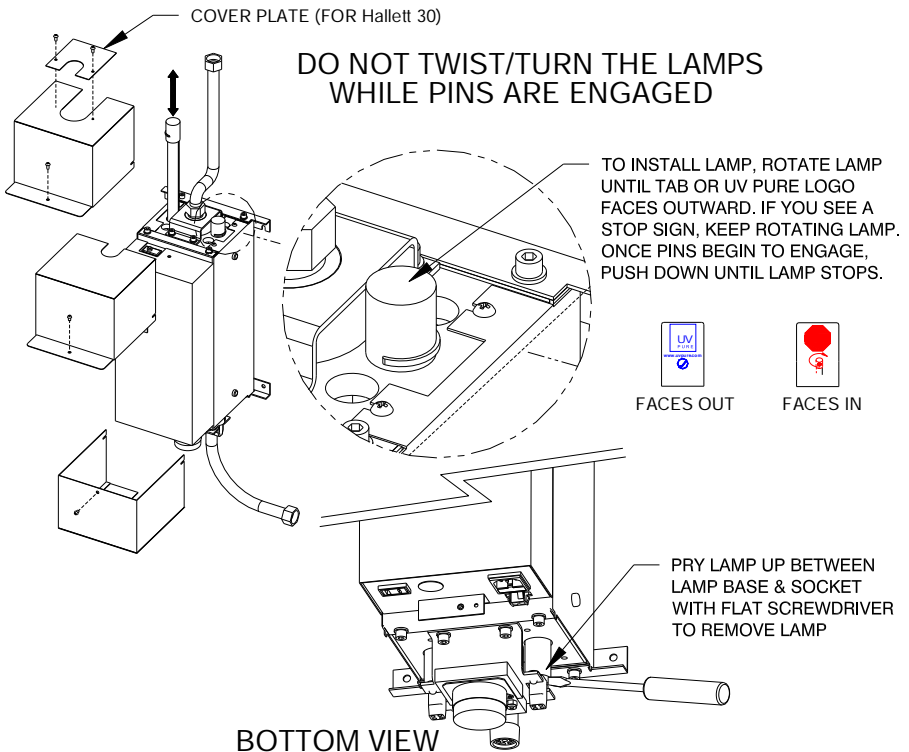

Figure 3
The lamps can be replaced in a few minutes. Draining the unit is not required. See Figure 3.
Step 3: Slowly lift the old lamps out of the unit. **Do not twist the lamps when they are installed.** For assistance in this task, use a flat screwdriver and pry the lamps between their base and the socket to disengage the pins (see Figure 3). Dispose of the old lamps in the same way as you would dispose of ordinary fluorescent tubes. Note that old lamps should be disposed of at a household waste management depot or transfer station; contact your local recycling and waste management authority for proper disposal procedures in your area.
Step 4: Install the new lamps into the unit, being careful not to touch the bulb. Ensure that the lamps are aligned with the tab facing the outside of the system (left or right side of the system), or, if the lamps have a stop sign printed on the top ceramic, that the stop sign is facing inward (center of the unit). If you can see the stop sign, the lamps are backward (See Figure 3).